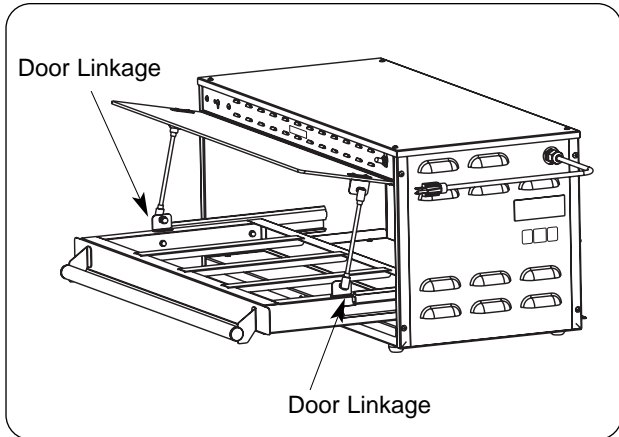

Figure 8. Disconnecting Drawer from Door
2. While supporting door, disconnect door linkages from drawer by lifting up outer sleeve of linkage and gently pulling away from connection. (See Figure 8.)